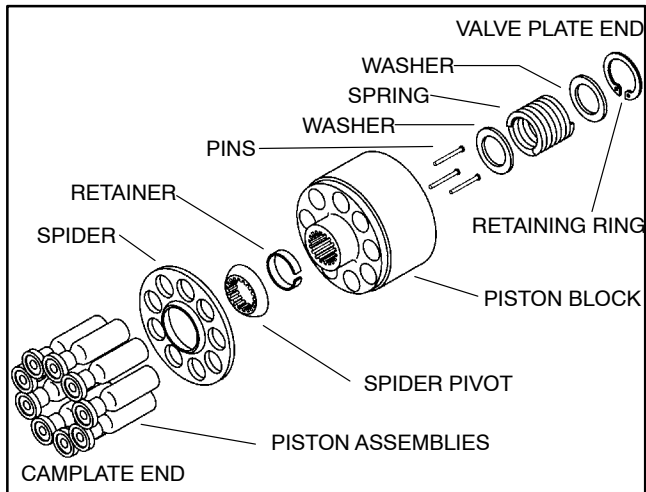
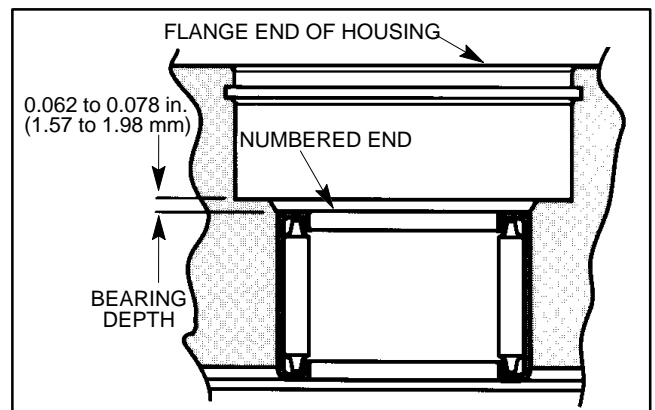

Figure 22
Figure 24
4. Remove dump valve assembly (21) and O-ring (38) from the backplate assembly (16). Remove O-rings (36 and 37) from the valve assembly.
5. Remove both plugs (18), O-rings (17), spring (19), and seats (20) from the backplate assembly (16).
6. Remove gasket (12) from the housing (29) or backplate assembly (16).
**Note:** To remove the rotating parts kit (11) from the shaft (2), a table or workbench with a hole in the working surface is required for the protruding shaft.
7. The rotating parts kit (11) can be removed from the shaft (2) as follows:
A. Hold rotating parts kit (11) in place and remove the pump from the vise.
B. Position the housing assembly (29) end of the pump up and lower the shaft (2) through the hole in the table or workbench. Allow rotating parts kit (11) to rest on the table.
C. Remove rotating parts kit (11) by lifting away the housing assembly (29) and shaft (2).
8. The rotating parts kit (11) can be disassembled as follows (see Fig. 22):
2. Inspect rotating parts kit (Fig. 22).
- A. Verify that bearing depth on the numbered end meets the proper dimension (Fig. 24).
2. If necessary, press new bearing (3) into housing assembly (29) to the proper dimension shown (Fig. 24).
3. Insert camplate (10) into the housing assembly (29).
4. On the short trunnion side of the camplate (10), install bearing (8) with numbered side to the inside of the pump. Install inner race (28) with the chamfer towards the inside of the pump. Install washer (7), O-ring (27), trunnion O-ring cover (26), and trunnion cover (25). Secure trunnion cover with two screws (4), and torque them from 36 to 48 in-lb (42 to 55 kg-cm).
5. On the long trunnion side of the camplate (10), install bearing (8) with numbered side to the inside of the pump. Install washer (7) and press shaft seal (6) into place. Secure seal cover (5) with two screws (4), and torque them from 36 to 48 in-lb (42 to 55 kg-cm).
6. Install retaining ring (30) towards the keyed end of the shaft (2). Slide bearing race (31), thrust bearing (32), second bearing race (31), and second retaining ring (30) into place over the splined end of the shaft.
7. Position washer (33) and shaft seal (34) onto the shaft (2) from the keyed end.
8. Install shaft (2) into the housing assembly (29) from the flanged end. Press shaft seal (34) into position with a seal driver. Install retaining ring (35) into the flanged end of the housing assembly (29).
9. Reassemble rotating kit assembly (11) as follows (Fig. 22):
10. Set rotating kit assembly (11) on a working surface with the piston shoes facing up. Insert shaft (2) through the rotating kit assembly with the flanged end of the housing assembly (29) up. Position rotating kit assembly into the housing assembly.
11. Make sure piston block and shaft (2) splines are aligned. Make sure piston block is engaged fully so the piston shoes are in contact with the camplate (10). **Make sure all parts are in their proper position before proceeding to the next step.**
12. Hold rotating kit assembly (11) in place, and clamp housing assembly (29) with the flange end down into a vise with protected jaws. Install gasket (12) and two dowel pins (15) into the housing assembly (29).
13. If necessary, press new bearing (14) or roll pin (24) into backplate assembly (16) to the proper dimension shown (Fig. 24). Bearing should be installed with numbered end outward. Roll pin should be installed with split oriented away from the bearing.
14. Install seat (20) and spring (19) into backplate assembly (16). Install new O-ring (17) and plug (18) into the backplate assembly. Torque plug from 95 to 105 ft-lb (13.1 to 14.5 kg-m).
15. Install new O-rings (36 and 37) onto dump valve assembly (21). Install dump valve assembly into the backplate assembly (16). Torque valve assembly from 27 to 30 ft-lb (3.7 to 4.1 kg-m).